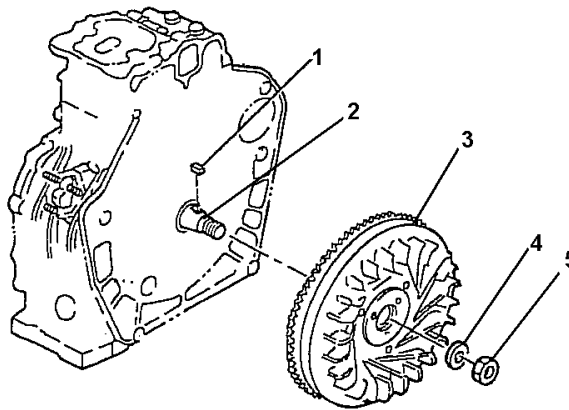

Figure 5. Flywheel.
1. Loosen the lock nut (5) and washer (4) from flywheel (3) and crankshaft (2). See Figure 5.
2. Reinstall the locknut (5) and washer (4). See Figure 5.